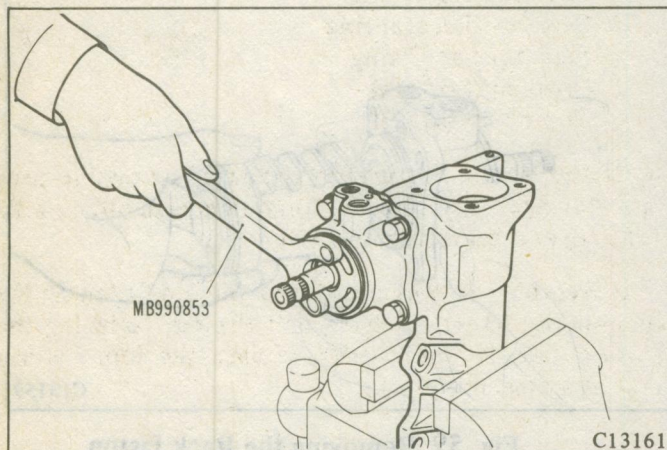

Fig. 61 Removing the Top Cover
(1) Loose the top cover using a special tool Top Cover Remover MB990853 as shown in Fig. 61.